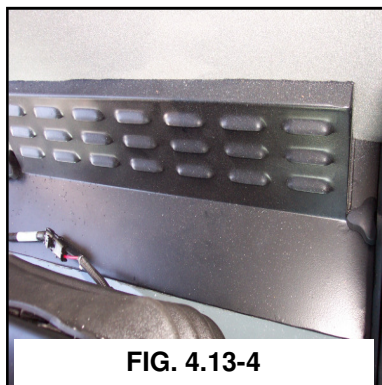

FIG. 4.13-4
**CAB FILTERS**– Inside the cab are two filters (fig. 4.13-4), a charcoal filter and a paper filter. Refer to the SERVICE section B on filters for maintenance information. Refer to the Hagie Parts Manual for replacement part information.